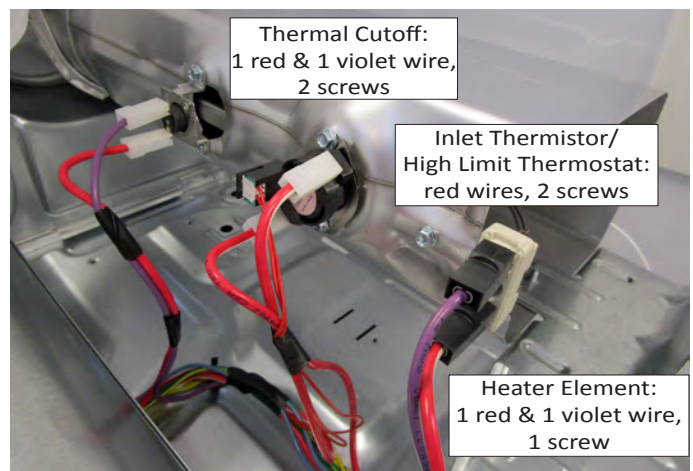

Figure 3 - Heater & Thermals
5. To Remove the Heater (see Figure 3):
- a) Remove the two (2) wires from the heater terminal block.
6. To remove the High Limit Thermostat or Thermal Cutoff (see Figure 3):